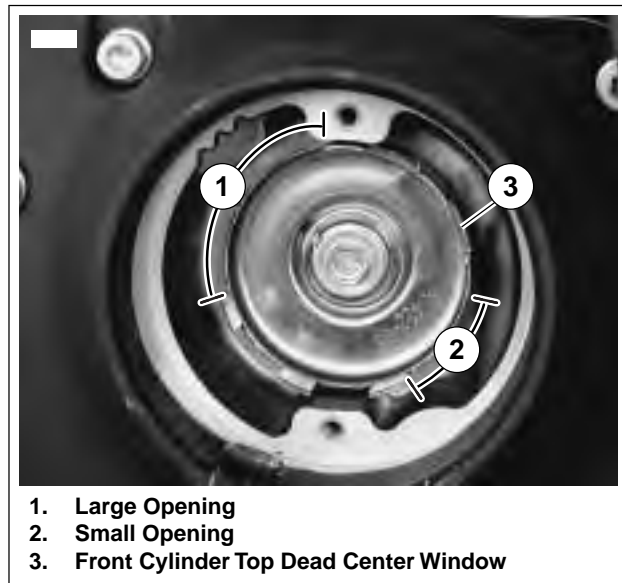

Figure 1-48. Trigger Cup Openings
6. See Figure 1-48. Set static timing. This will align openings (1, 2) on trigger cup with cam position sensor.